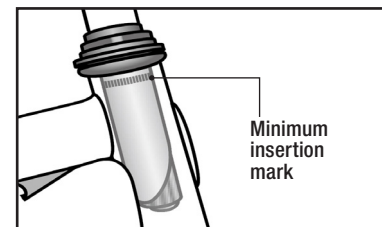

Figure 14
**⚠ WARNING:** To prevent steering system damage and possible loss of control, the stem must be inserted enough so that the minimum insertion marks are completely covered (see Figure 14).